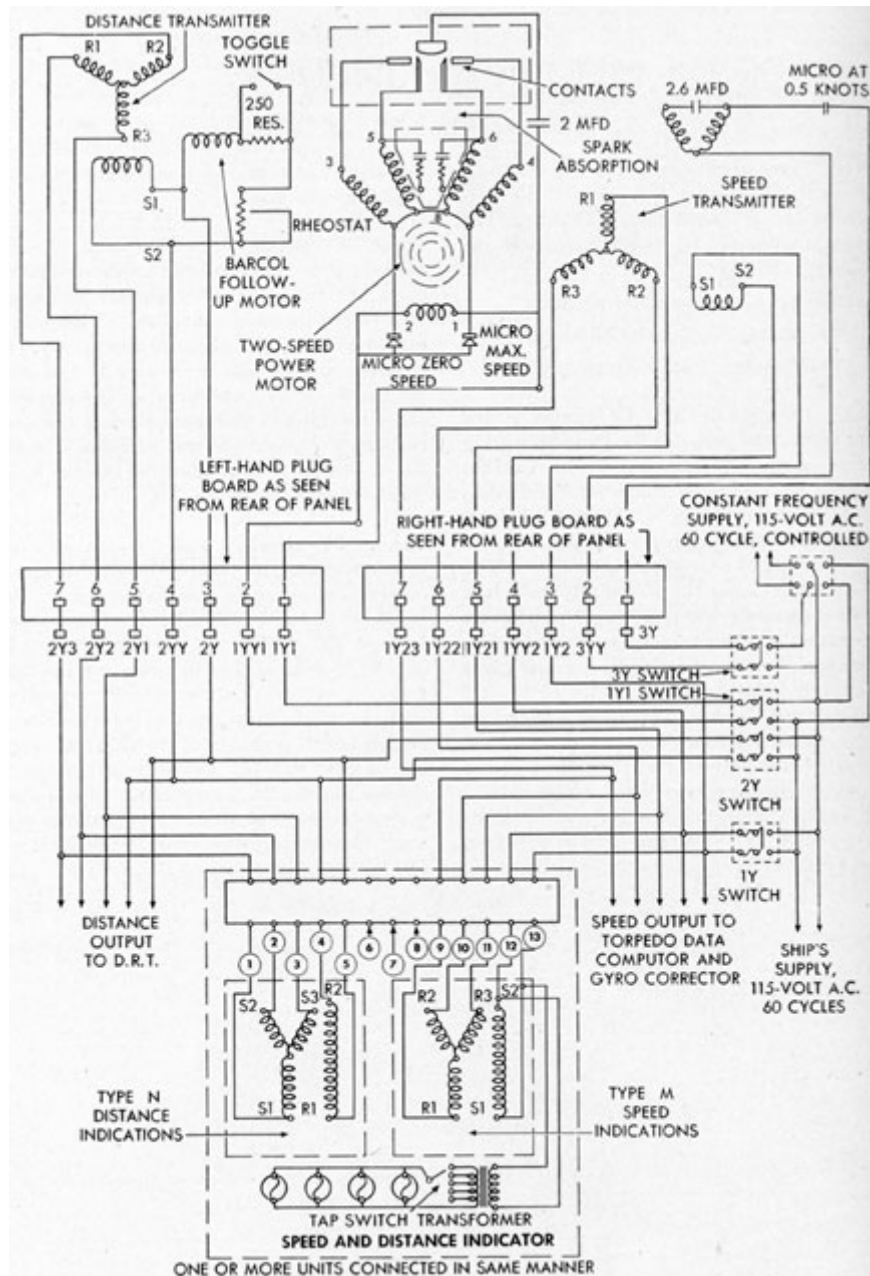

Figure 16-1. Bendix log wiring diagram.
**16A1. Types of circuits.** (See Figure 16-1.) All electrical circuits that connect the underwater log are known as Y circuits. The Bendix underwater log is equipped with the following circuits: